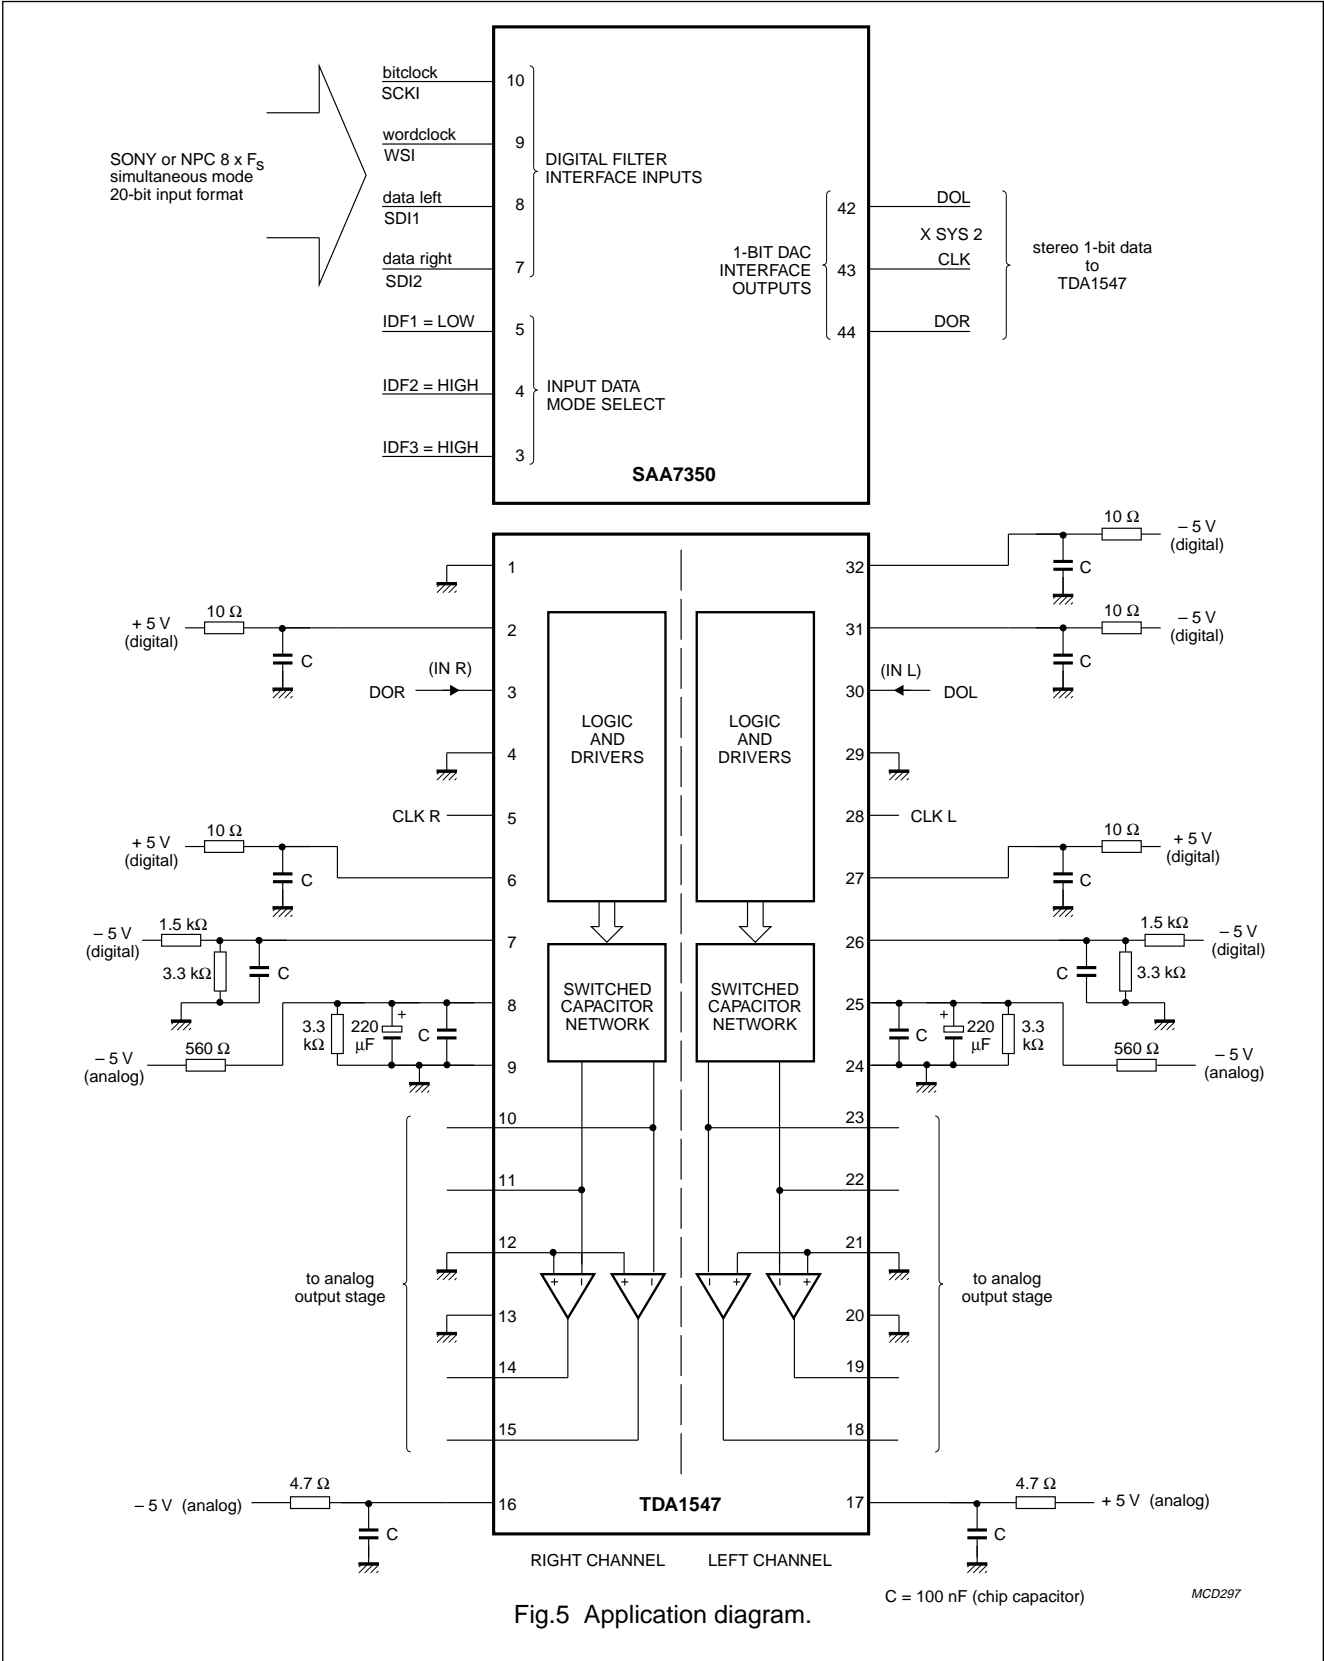

Fig.5 Application diagram.
3. Device measured in differential mode with external components as shown in Fig.5.
7. The specified signal-to-noise ratio includes noise introduced by the application components as shown in Fig.5.